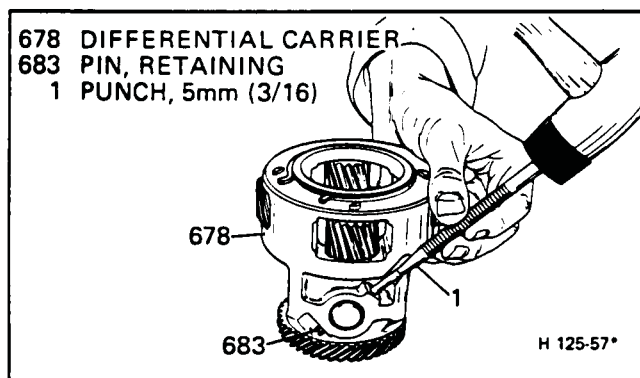

Figure 52 Pinion Shaft Retaining Pin
**Install or Connect (Figure 52)**